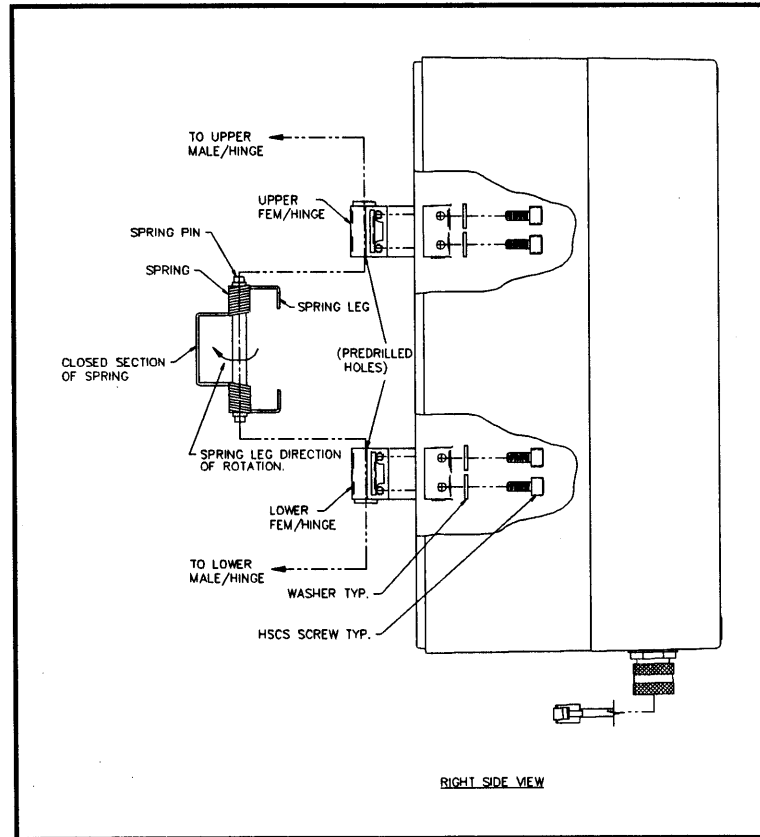

Figure 1.
2. On a flat surface, loosely assemble Spring Kit parts making sure that new female hinges (with predrilled pin hole), the spring, and spring pin are properly aligned and positioned as shown in Figure 1.